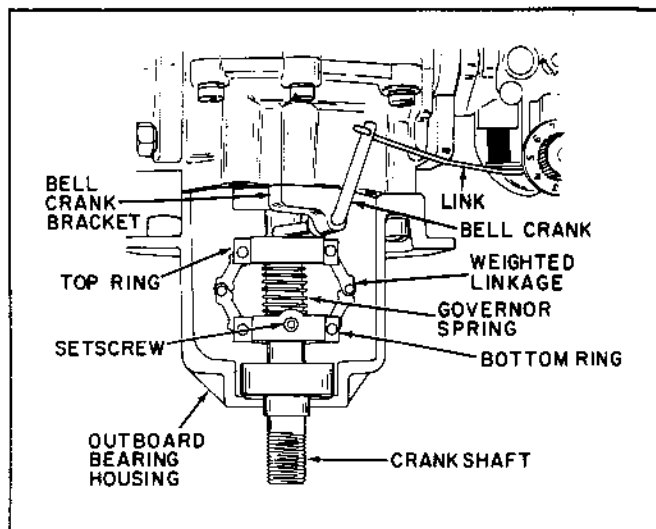

Figure 5-8. Power Take-Off End Mounted Governor
(1) The governor assembly consists of two rings (Fig. 5-8) a weighted linkage, and the governor spring. The lower ring is secured to the crankshaft, so the governor assembly rotates with the crankshaft. As rotational speed increases, weighted linkages are thrown outward by centrifugal force. The top ring must move toward the bottom ring. The governor bell crank contacting the top ring follows it, permitting the throttle to close, slowing down the engine speed. The centrifugal force decreases, the governor spring moves the top ring upward, overcoming the throttle spring to open the throttle, and maintain a constant operating engine speed. Adjust these governors as follows: